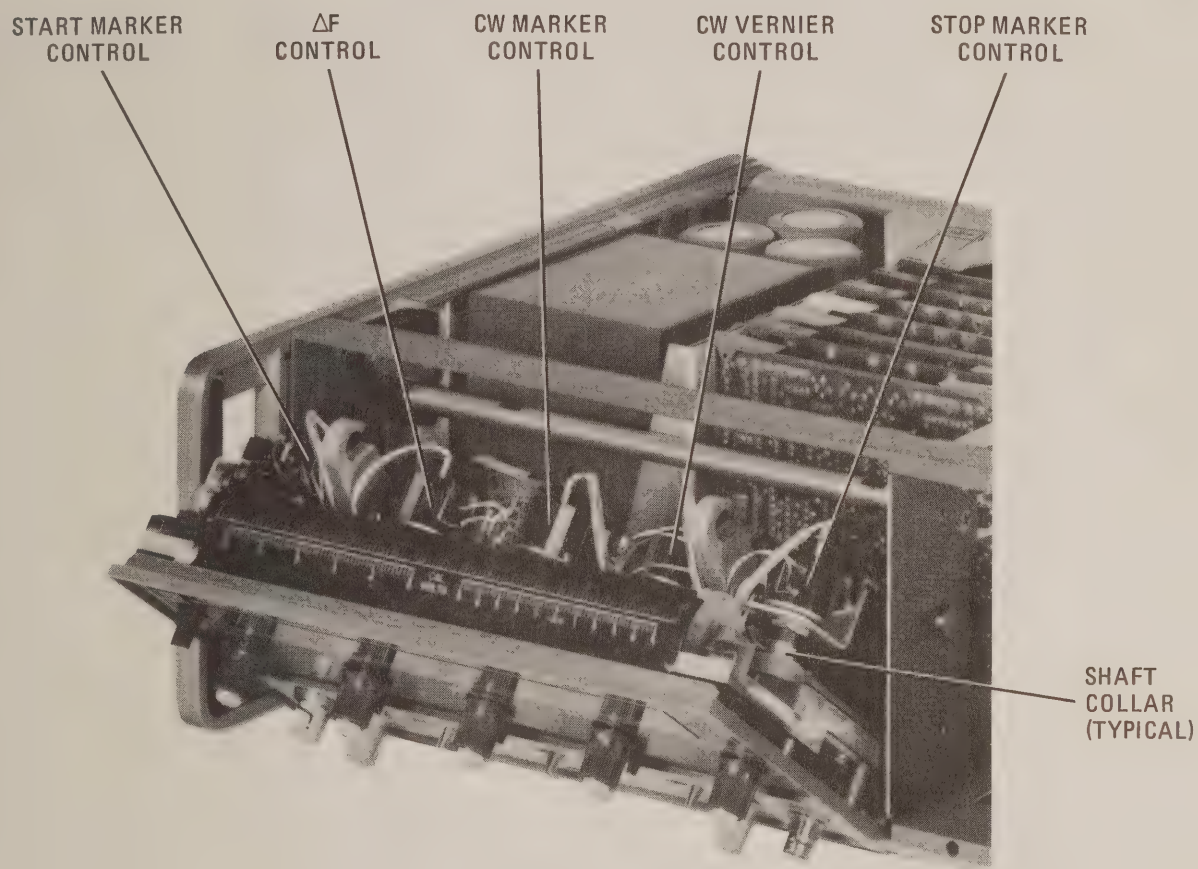

Figure 5-5. Mechanical Zero Adjustment Locations
REFERENCE: Figure 5-5. Mechanical Zero Adjustment Locations.
- b. Loosen set screws in shaft collar as shown in Figure 5-5 using a right-angle 4-spline (Bristol) wrench (HP Part No. 8710-0055).